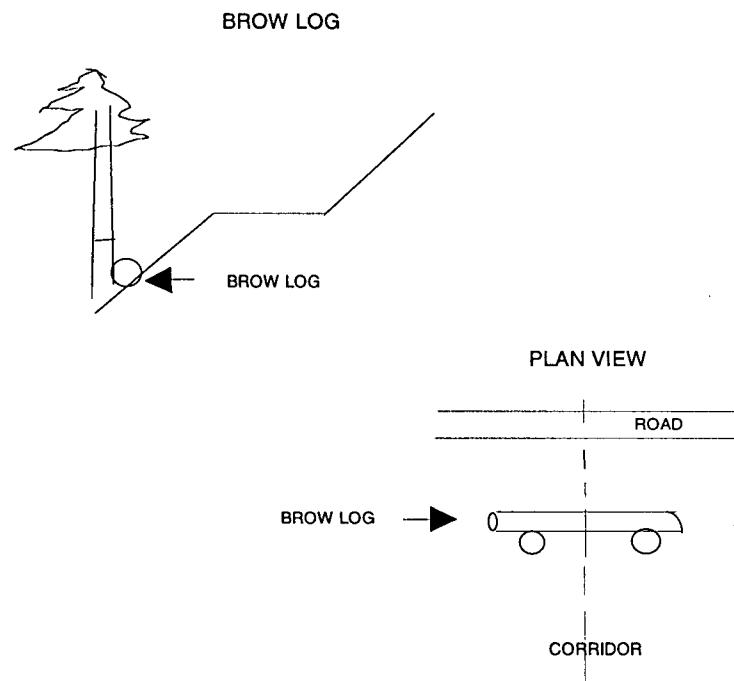

Figure 3. Use of brow log.
- A. (Figure 3) When we locate corridors, guyline positions and tailtrees, we ribbon the trees that are close to the road. Then we high stump them and set a brow log. A boulder, a stump or a natural ledge can also be used to set the brow log or these features may mean a brow log isn't necessary. When the turn comes in, the end of the log hits the brow log and chokers are positioned for the chaser to unhook, normally about his waist level, and he doesn't have to climb down to unhook his turn. Some of the Crestbrook operators have mechanical devices that they've developed. Also, Skylead has developed a portable device; a series of disks holds small trees with limbs.